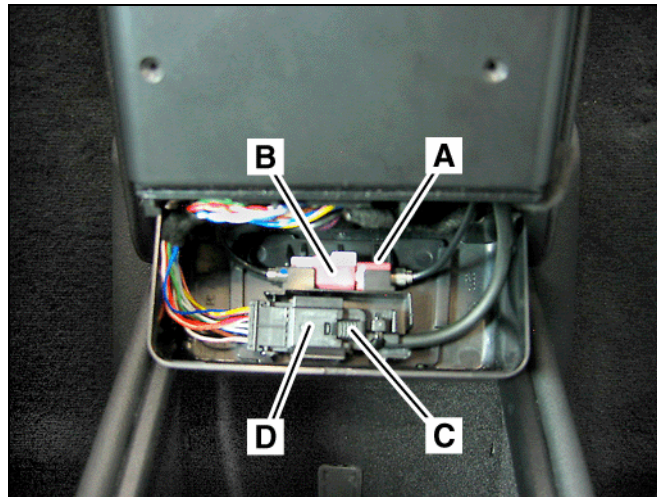

**Figure 26**
7. Snap the contact plate (A, Figure 26) into the false floor by firmly pressing down from the topside until an audible click sounds.
8. Route the contact plate leads through the cable manager (B, Figure 26) on the false floor underside.
9. Feed the male FAKRA and power supply connectors of the contact plate through the hole (C, Figure 26) inside the upper compartment, to the housing for the female FAKRA and power supply connectors at the outside bottom of the upper compartment.